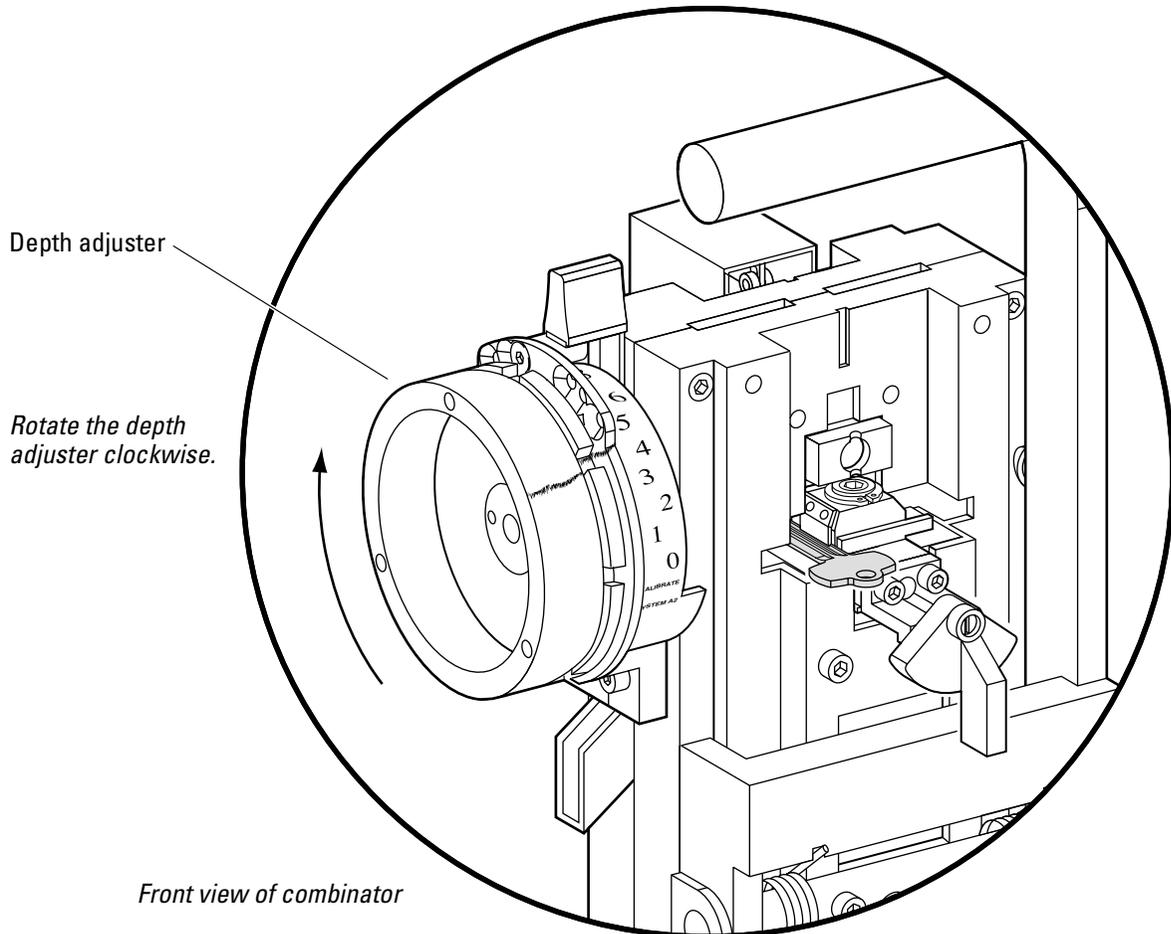

Figure 3.20 Turning the depth adjuster clockwise
3. Rotate the depth adjuster clockwise (turning the depth adjuster 1/4" changes the cut depth by 0.0010"—one thousandth of an inch). Use the lead or grease mark as a reference. See Figure 3.20.